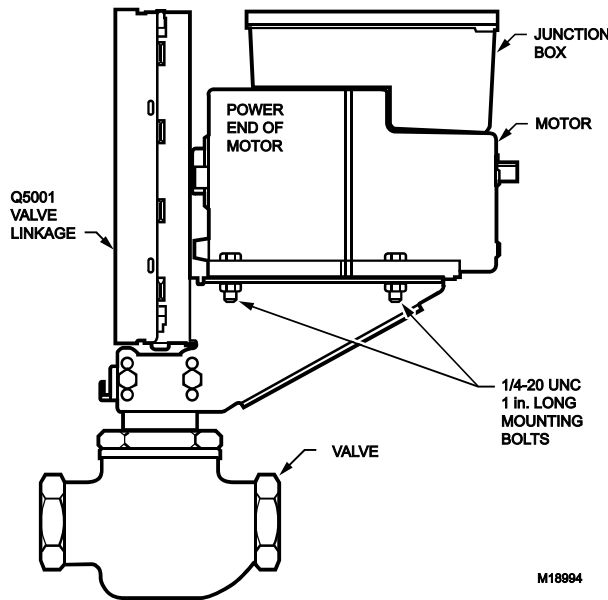

Fig. 4. Mounting the motor on a Q5001 Valve Linkage.
3. Attach the motor to the bracket with the four bolts provided. See Fig. 4.
The Q100 Linkage requires a 220738A Adapter Bracket for all valve applications. Applications with the Q5001 Valve Linkage do not require the 220738A Adapter Bracket (see Fig. 4).